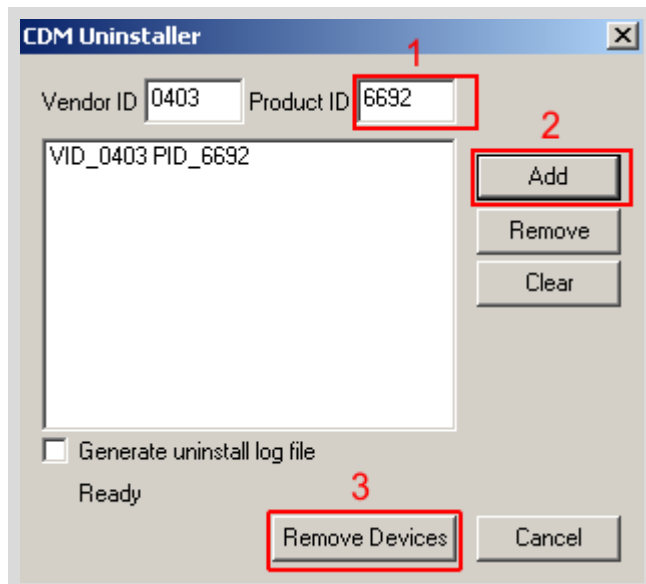

Figure 13 The Drivers uninstalled by CDM Uninstaller software
- Change the PID to 6692 (Figure 13).